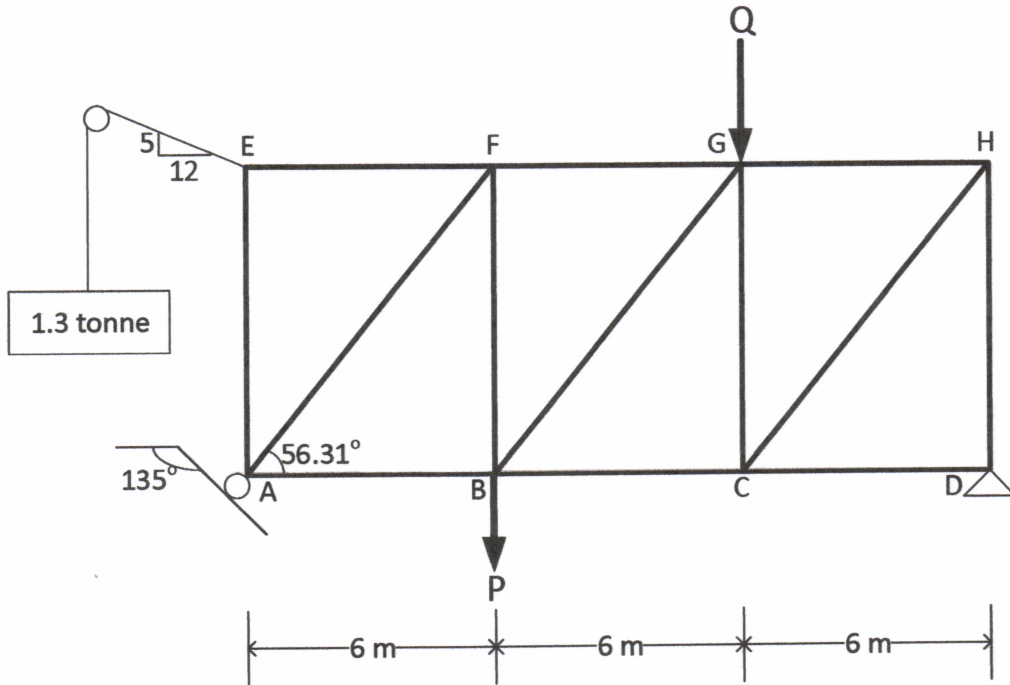

FIGURE Q1
- (b) Check the determinacy for truss shown in **FIGURE Q1** (2 marks)
- (c) A truss as shown in **FIGURE Q1** is loaded with 1.3 tonne box through a frictionless pulley at point E, point loads P and Q at point B and G respectively. Value of P is 15 kN and Q is twice the value of P. Perimeter members of this truss were high strength steel unequal angle of 152 x 102 x 19 mm section. The rest of the members were mild strength equal angle of 102 x 102 x 19 mm section. Further details for the truss are as follow: